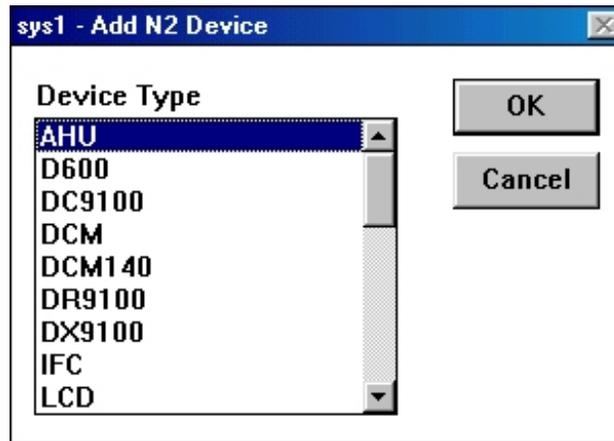

Figure 8: Add N2 Device Dialog Box
4. Click OK. The Add N2 Device dialog box appears (Figure 8).